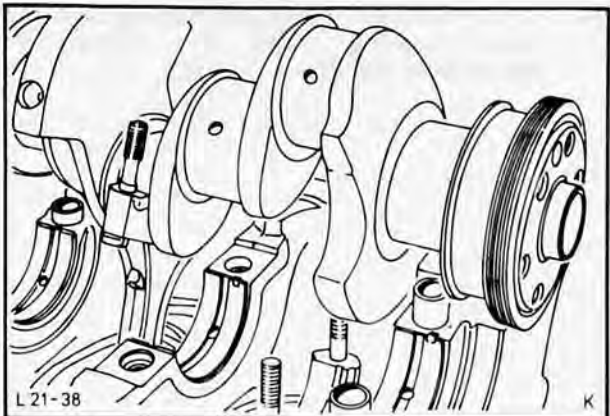

Fig. 89. Remove crankshaft
28. Lift crankshaft out of cylinder block and remove rear oil seal, Fig. 89.